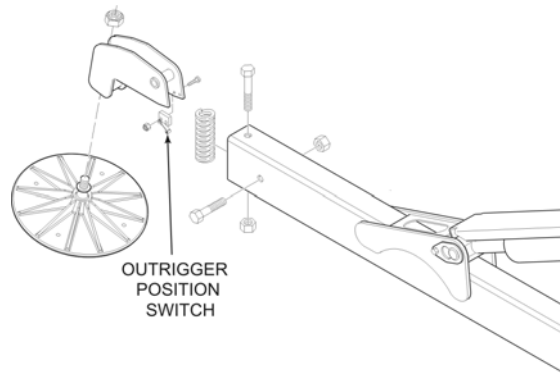

Figure 4-1. Outrigger Position Switches
- ❑ Repair or replace as needed. Refer to Figure 4-1.